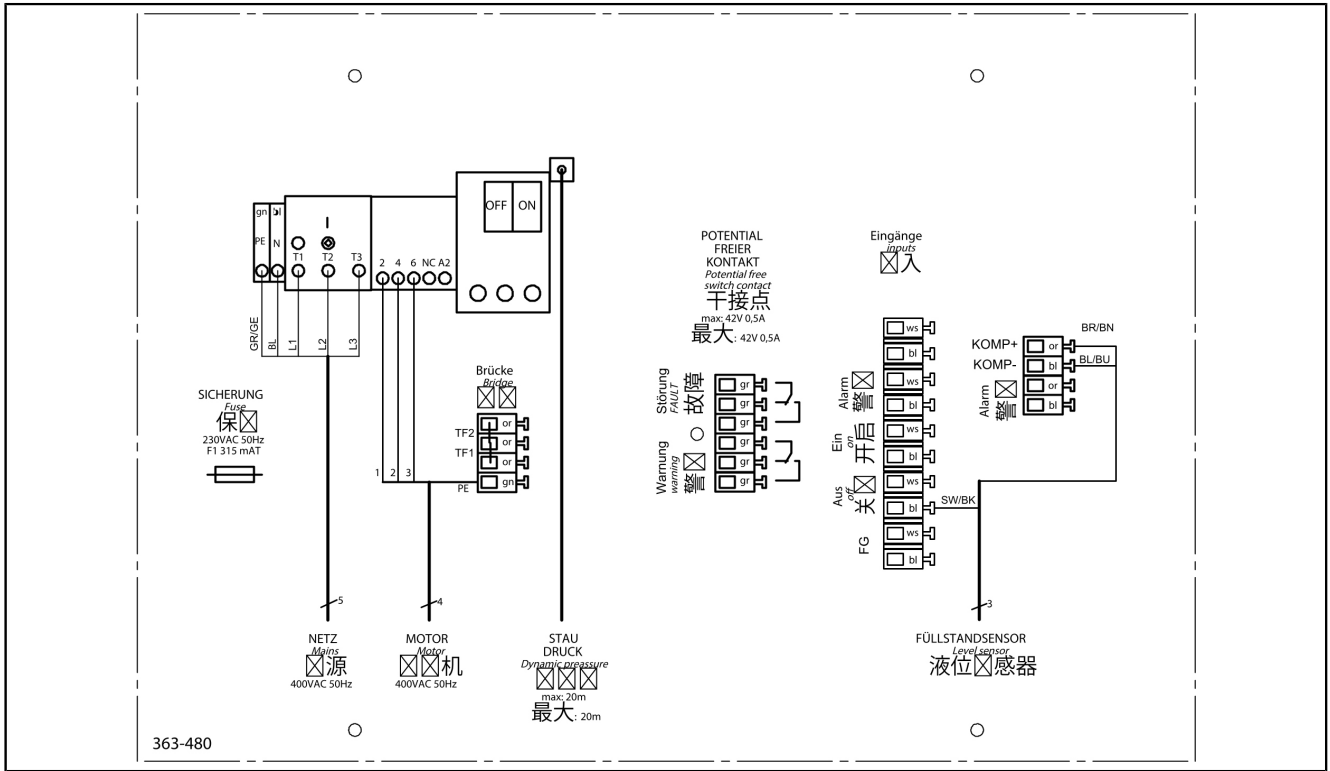
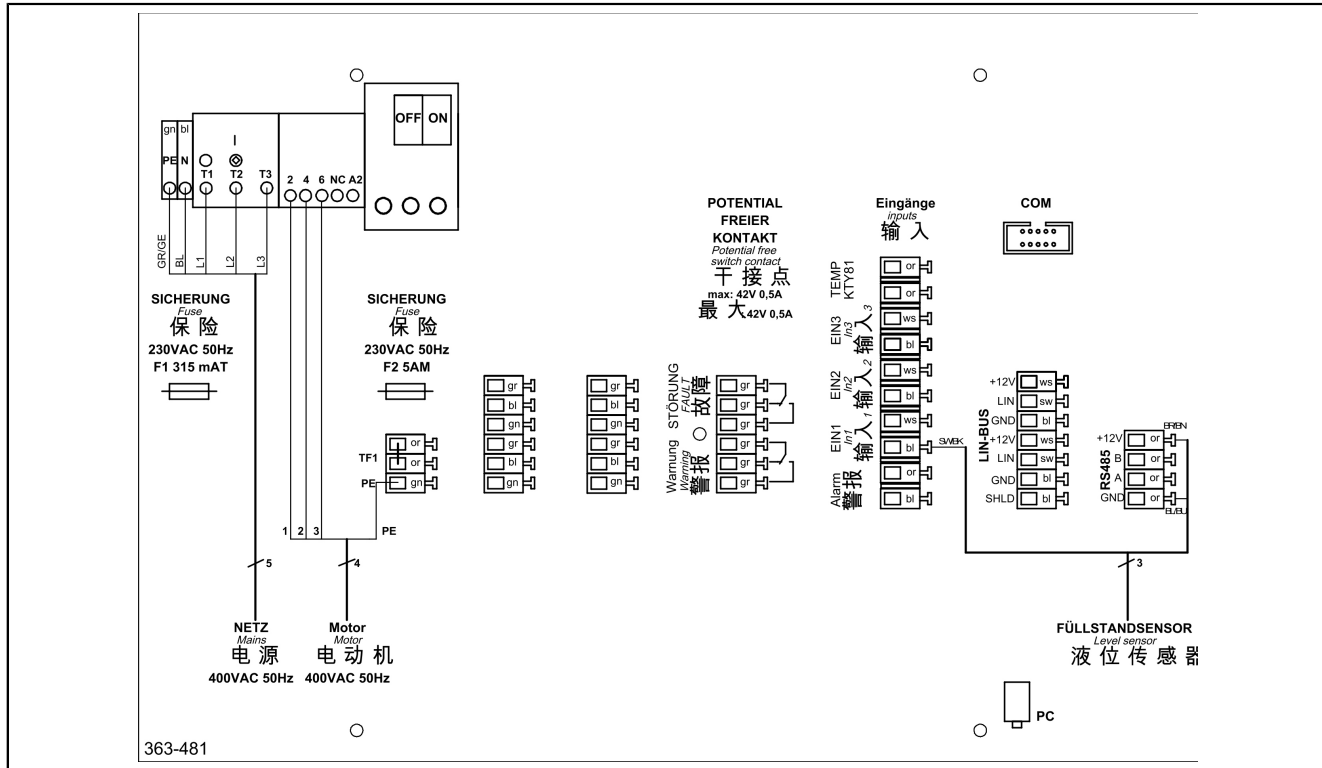

Fig. 5: Connection diagram auger screw control unit
Fig. 6: Connection diagram skimmer unit control unit
- Check whether the control units have been wired in accordance with the connection diagram (see "Fig. 5: Connection diagram auger screw control unit", page 64/ see "Fig. 6: Connection diagram skimmer unit control unit", page 65).